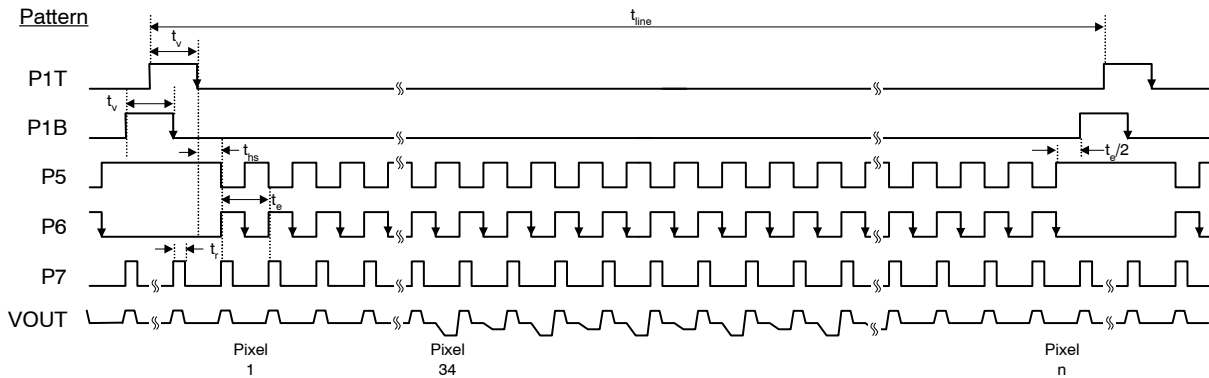

**Figure 21. Photodiode Transfer Timing**
1. Refer to timing diagrams as shown in Figures 21, 22, 23, 24 and 25.
The timing sequence for the clocked device pins may be represented as one of seven patterns (P1–P7) as shown in the table below. The patterns are defined in Figure 21 and